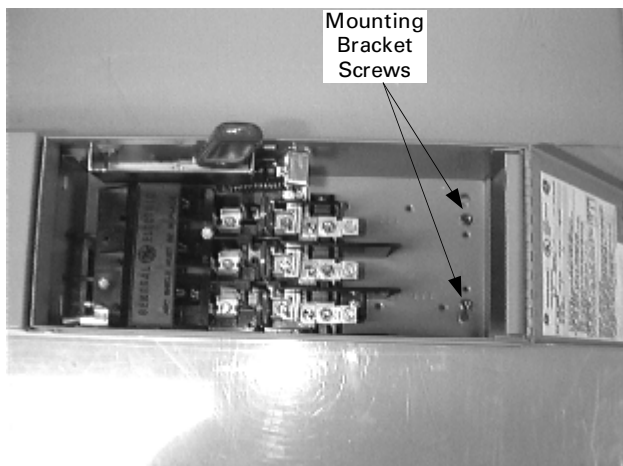

Figure 1. Removing the mounting bracket from the switch.
- 1. Remove the mounting bracket.** Remove the two screws shown in Figure 1 and remove the mounting bracket from the switch.